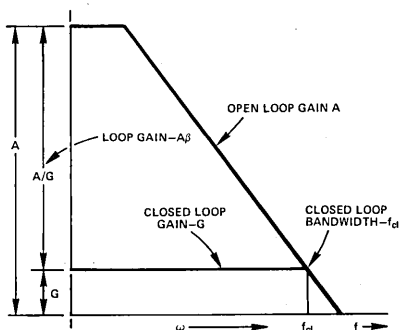

Figure 4. Closed Loop Bandwidth and Loop Gain
2. *What closed loop gain and bandwidth are required?* Closed loop gain,  $G$ , is dictated by the application. To a first approximation the intersection of the open and closed loop gain curves in Figure 4 gives the closed loop bandwidth,  $f_{c1}$  ( $-3$ dB). For high gain, wideband requirements, it may be necessary, or more economical, to use two amplifiers in cascade, each at lower gain.
3. What loop gain is required or alternatively what gain stability, output impedance and/or linearity are necessary? The available loop gain at a particular frequency or over a range of frequencies is very often more important than closed loop bandwidth in selecting an amplifier. Loop gain as illustrated in Figure 4, is defined as the difference, in dB, or as the ratio, arithmetically, of the open to closed loop gain ( $A\beta = A/G$ ). You will find in most of the equations defining the closed loop characteristic of a feedback amplifier that the loop gain ( $A\beta$ ) is the determining factor in performance. Some of the more notable examples of this point are as follows: